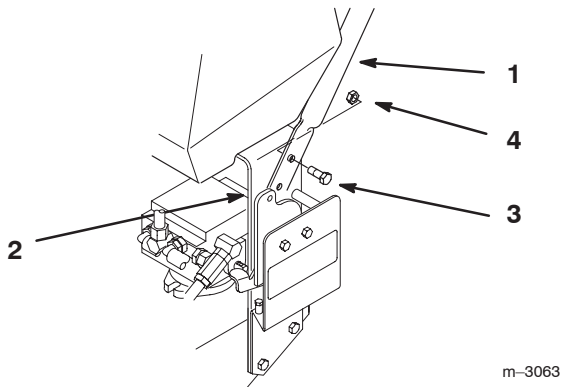

Figure 3
1. Align upper handle with mounting holes in rear frame (Fig. 3). Select high, medium or low position for lower mounting hole.
2. Secure each side with 2 flange bolts (3/8 x 1 inch) and 2 flange nuts (Fig. 3). Torque bolts to 25 ft-lb (34 N·m).